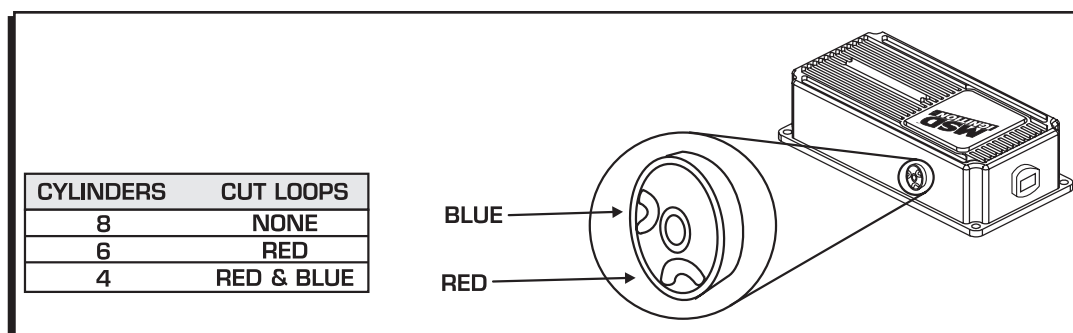

Figure 2 Selecting the number of Cylinders.
2. There are two wire loops, a Red and Blue loop. Refer to the chart in Figure 2 to determine which loop to cut for your application.